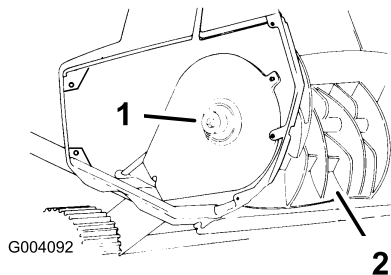

Figure 14
2. Use a 5/16 inch Allen wrench to turn the rotor shaft clockwise (left-hand thread) while holding the rotor (Figure 14).